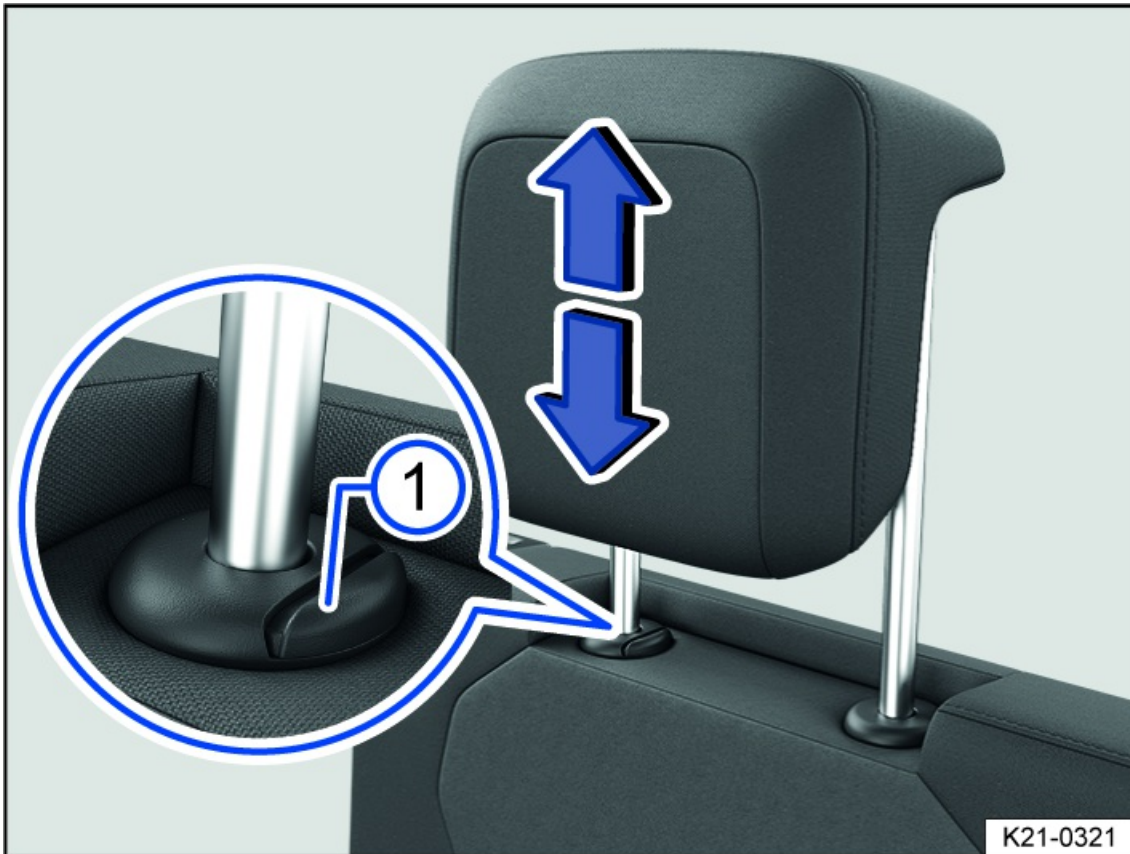

Fig. 67 Adjusting the head restraint on the third-row seats (general example).
1. Push the head restraint upward in the direction of the arrow or slide it downward while pressing the fig. 67 button.